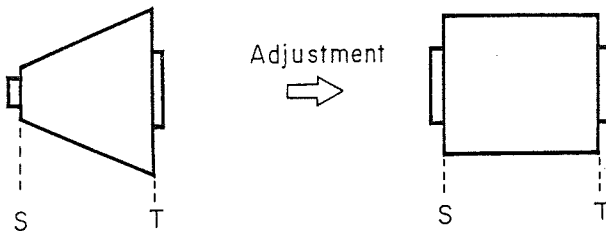

Fig. 6.26
- 1) First, make clear which side (S(Supply) or T(Take-up)) of level is small. (S side in case of Fig. 6.26.)